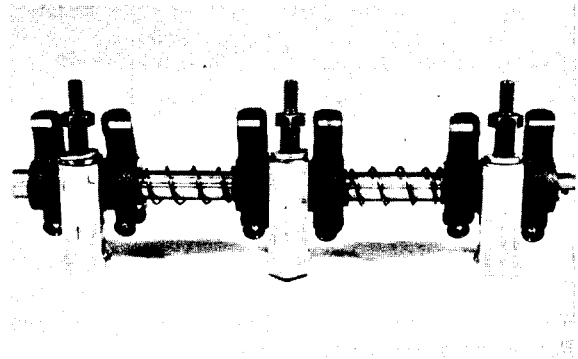

Figure 60a
8. Loosen the rocker stay attaching bolts. Remove the rocker assembly (Fig. 60a).